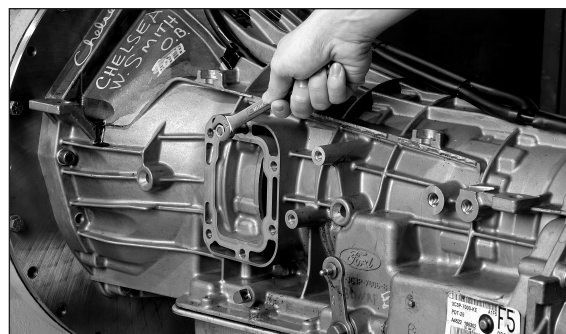

Figure 75
8. Install the stud from the stud kit in the top hole on the transmission PTO aperture pad (**Fig. 75**).